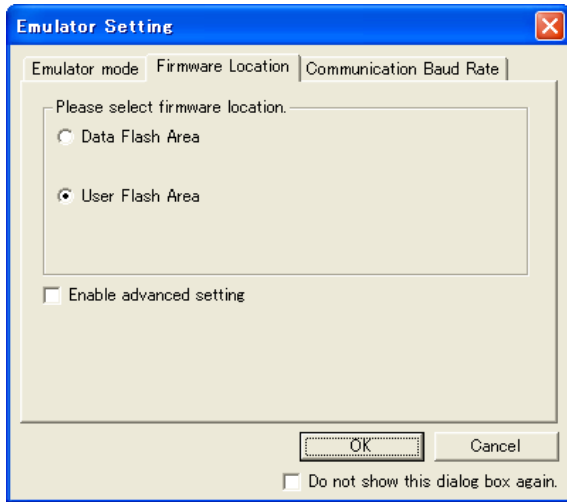
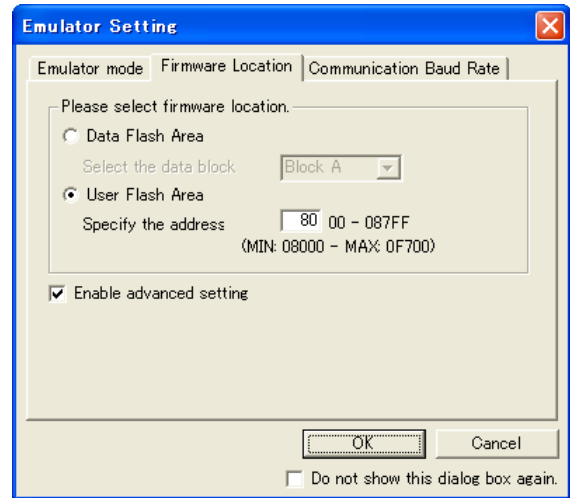

Figure 6.1 [Firmware Location] tab of [Emulator Setting] Dialog Box (1)
Figure 6.2 [Firmware Location] tab of [Emulator Setting] Dialog Box (2)
- When using the MCU types R5F21266, R5F21276, R5F21286 or R5F21296, the [Emulator Setting] dialog box shown in Figure 6.1 is displayed. Specify the area which will not be used by the user system. If the [Enable advanced setting] check box is checked, the area used by the emulator can be specified with the address (Figure 6.2).